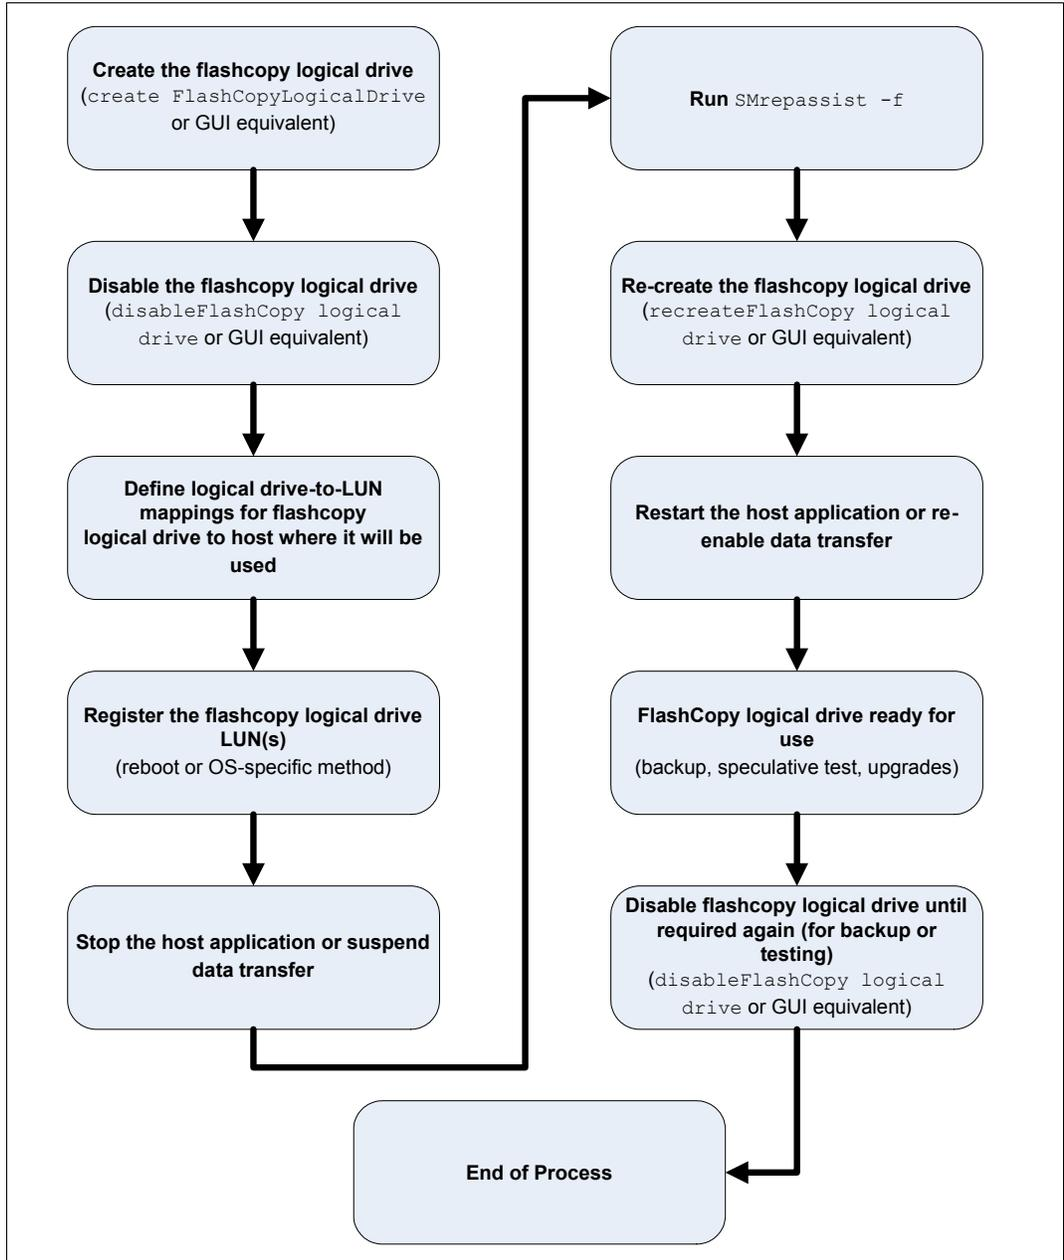

Figure A-1 Creating a FlashCopy logical drive: Windows 2003/2008 basic/regular disks
- ▶ Create a FlashCopy logical drive on Windows Server 2003 or Windows Server 2008 (using basic or regular disks). See Figure A-1.